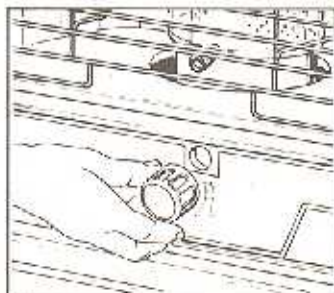

Fig. 7
(1) Wait 30 minutes after initial fueling, to allow wick to become fully saturated before lighting. If wick is not fully saturated when lighted, heater will not burn properly and will cause smoke and odor.
(2) Raise the wick to its full height by turning the wick adjustment knob clockwise till it stops (Fig.7). This fully raises the wick and also sets the shut-off device (clicking will stop when shut-off device is set).